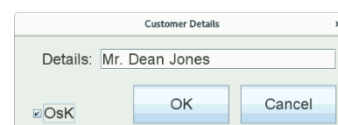

Figure 99: Suspended Sale
3. Operator selects **Menu** → **Special Functions** → **Suspend Sale**, operation that requires administrator privileges. When asked for details (Figure 99), the client's name should be added for future reference.